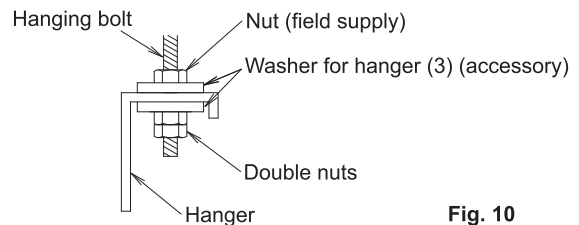

Fig. 10
- (1) Fix the hanger to the hanging bolt. (Refer to Fig. 10)